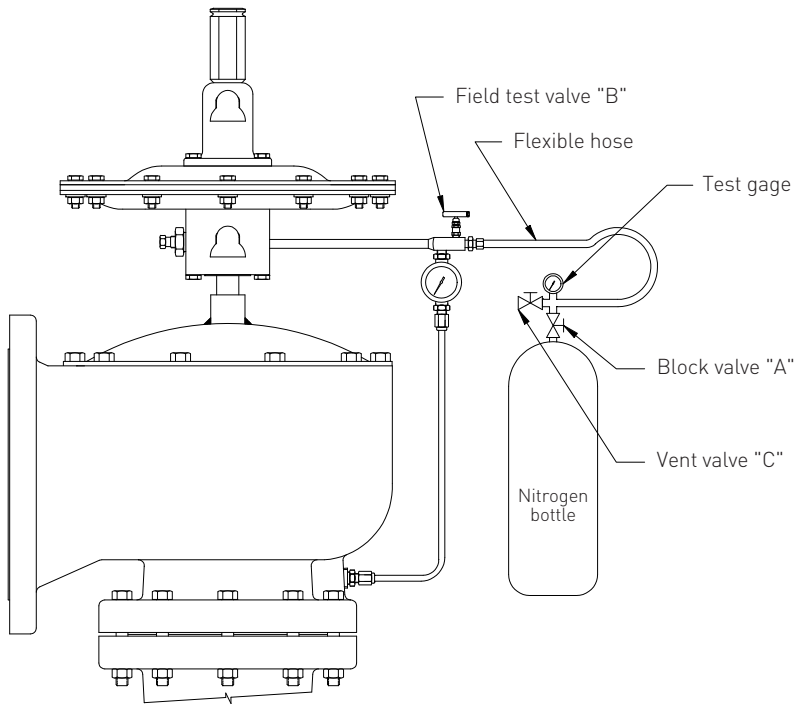

FIGURE 7
The pilot set pressure can be checked in the field by applying an external test pressure to the pilot through the field test hand valve as shown in Figure 7.
- A. Connect test gas bottle as shown in Figure 7.